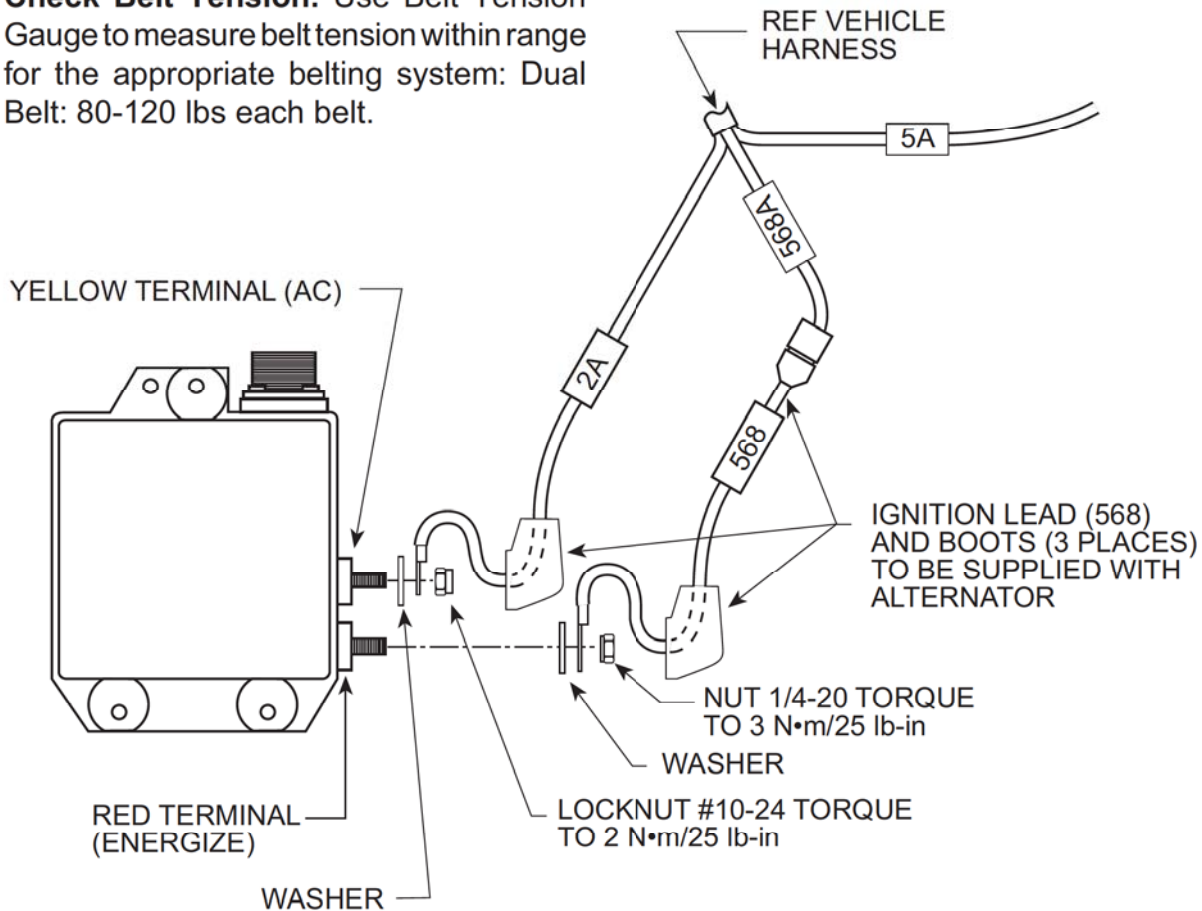

Figure 12-7.
Refer to Figure 12-7 for the following steps.
**F. NEIHOFF 100 AMP ALTERNATOR TESTING (Figure 12-7 through 12-9.**
4. **Check Ignition Circuit.** If alternator is not charging, check for voltage at the alternator energize terminal (Red Terminal). Refer to Figure 12-7 for energize terminal location on the outside of the regulator. Look for 24V nominal.